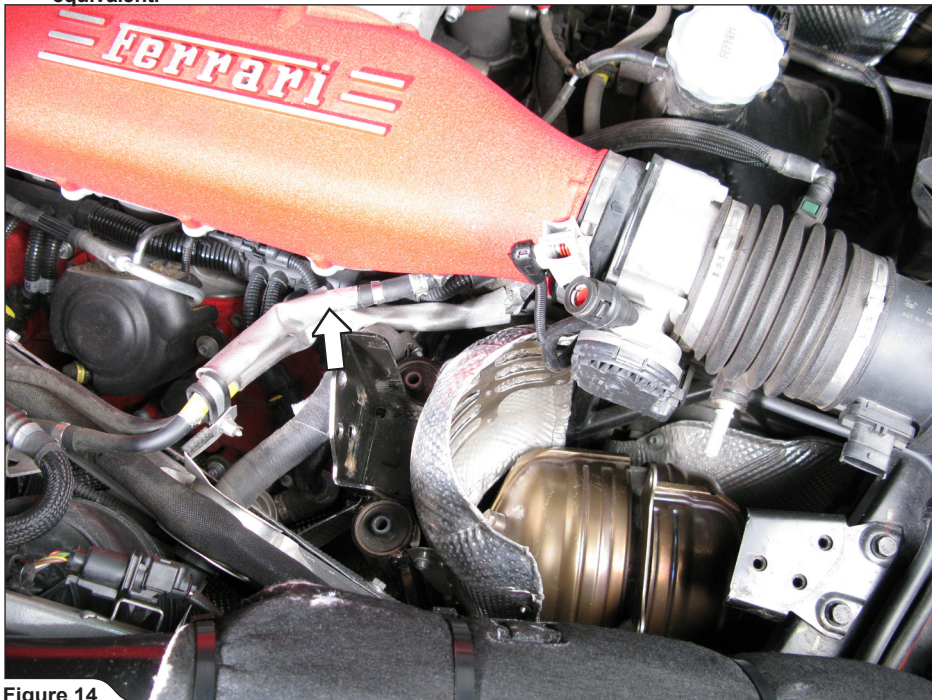

Figure 14
13. For optional Link Pipes only: carefully remove heat shields and original link pipes from both sides off the engine (Figure 14,15).